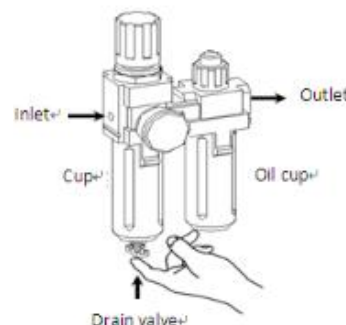

Figure 24
-The following maintenance should be done at least once a month: check the oil level of the cylinder, if it needs refueling, unscrew with hexagonal wrench, only SAE 30 # can be used, in the case of connected to compressed air, switch tyre changer head replacement button for the first time, see whether the mist drops the first drop of oil, For continuous use, switch twice each time and drop a drop of oil, otherwise please use a straight screwdriver to adjust the oil feeding screw.(Figure 24)